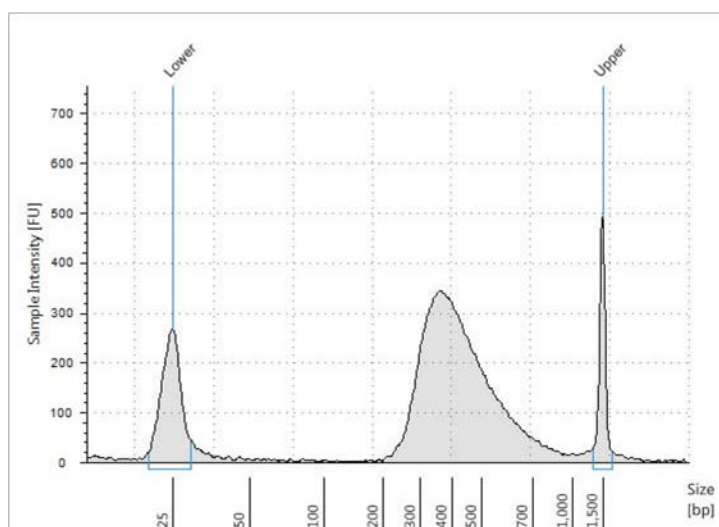

Figure 4: Post-capture analysis of amplified indexed library DNA using the 2200 TapeStation with a High Sensitivity D1000 ScreenTape.
- 3 Verify that the electropherogram shows the peak of DNA fragment size positioned between 325 and 450 bp. A sample electropherogram is shown in Figure 4.